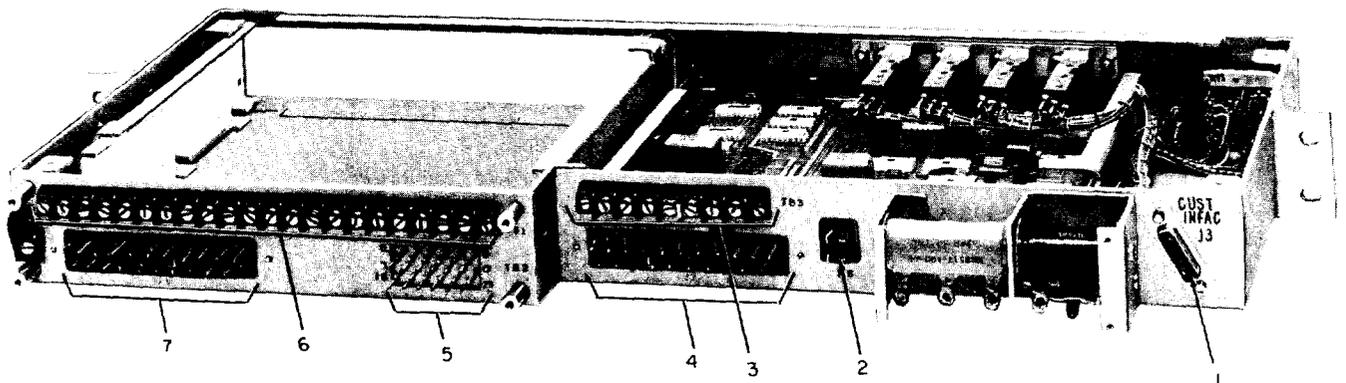

Fig. 3—551A CSU—Rear View With Covers Removed
**Note:** The numbers preceding the descriptions below correspond to the numbers in Fig. 3.
- (1) A 15-pin KS-19087-L1 customer interface connector (J3) that connects to the CPE via a customer-provided cord.
- (2) A P-3304-SCC plug (P8) that mates with an S-3304-ABT jack (J8) located on the rear cover.
- (3) A 7-station terminal block (TB3) that connects the fault locate pair to the fault locate (FLT LOC) jack. The terminal block also connects the